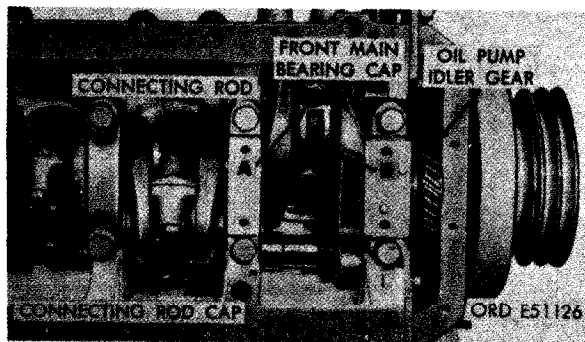

FIGURE 284. REMOVING OR INSTALLING CONNECTING ROD BEARING CAP AND BEARING.
- (2) Figure 284. (A) Remove two connecting rod bolts. (B) Remove connecting rod cap and bearings.